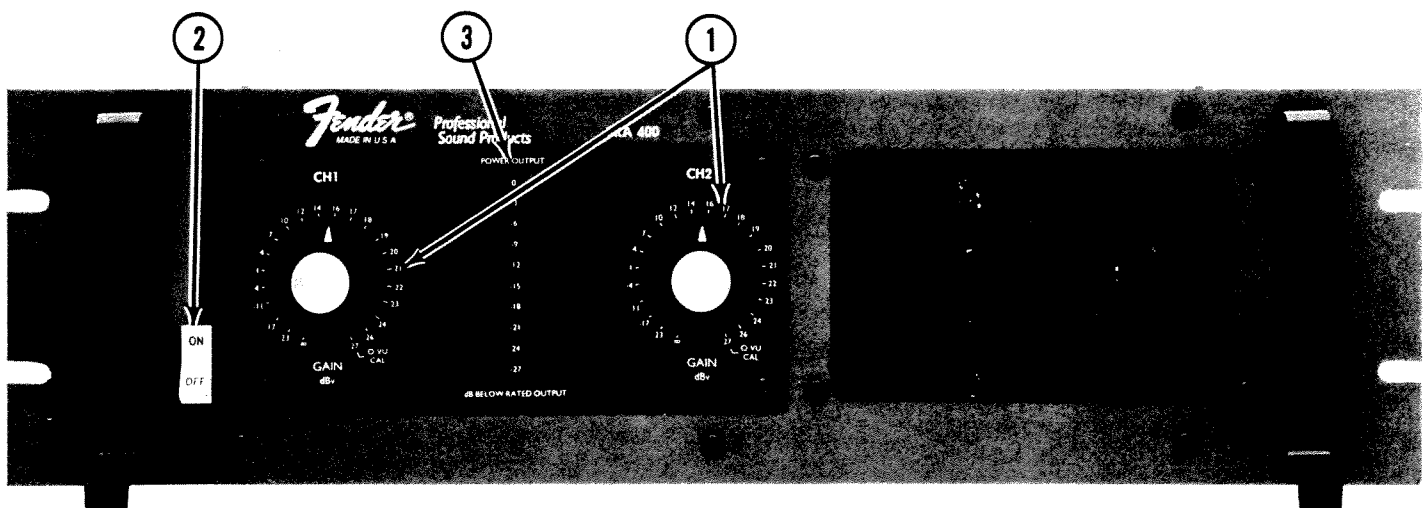

FIGURE 1 — Front Panel
#### Input Attenuators (Fig. 1 – Item 1)
#### CIRCUIT BREAKER/POWER SWITCH (Fig. 1 – Item 2)
(Fig. 1 – Item 2)
#### POWER OUTPUT DISPLAYS (Fig. 1 – Item 3)
4. Turn the power switch on (Fig. 1 – Item 2). The switch's internal lamp will light up, and the fan will begin to operate.